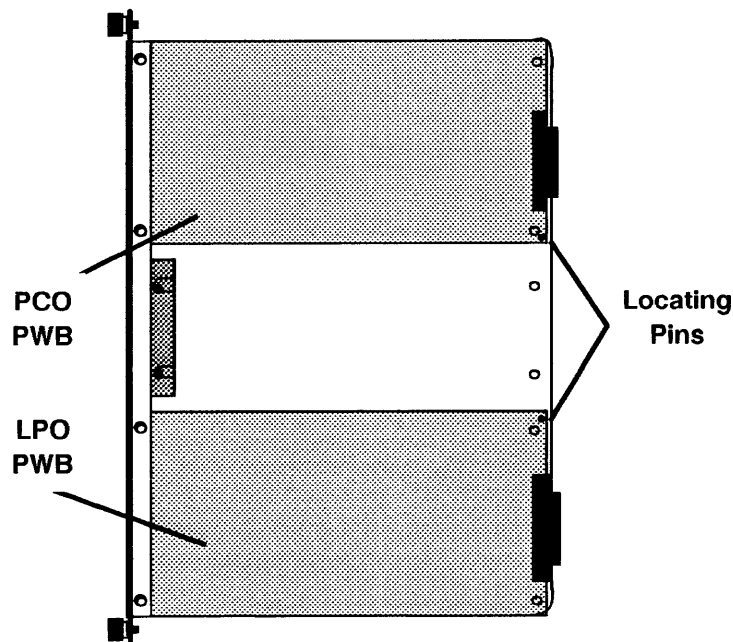

Figure 27. C5 Stiffener installation of both LPO and PCO PWBs
5. Place the PCO PWB on the upper section of the new C5 stiffener, making certain that the locating hole in the lower right corner of the PCO PWB is seated on the locating pin of the stiffener (Figure 27).